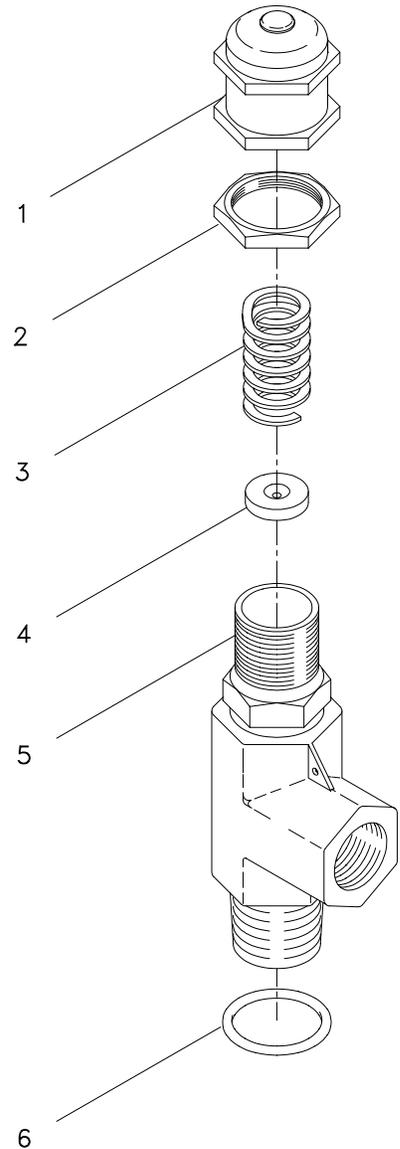

Figure 6-17. HP Relief Valve (AHP-V603)
6.8.3.6 HP Relief Valve (AHP-V603). Corrective maintenance for roof rack HP relief valve (AHP-V603) is limited to removal of the old valve and modification and installation of the new valve. Modification of the new valve is required as R3A valves are supplied by the manufacturer without a spring and must be fitted with a color-coded spring that corresponds to the required cracking pressure range. Since AHP-V603 requires a cracking pressure range of 3,000-4,000 psig, a white spring kit (PN 177-R3A-K1-F) should be ordered at the same time as the valve (see Figure 7-36 for index of replacement parts). Also, because the same basic valve is used for both AHP-V603 and ALP-V404 (compressor LP relief valve), AHP-V603 can be modified with a blue spring kit and a manual override handle kit to make it suitable for use as ALP-V404. See paragraph 6.8.2.8 for a comparison of the valves and instructions for converting AHP-V603 for use as ALP-V404. Refer to Table 2-4 and Figure 2-4 for valve location and to Figure 7-36 for an index of replacement parts. The callouts in the following procedure refer to Figure 6-17.